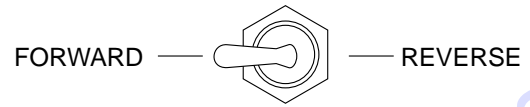

Figure 22. Direction Control Switch (FORWARD)
4. Place the **direction control switch** to the **FORWARD** position (Figure 22).